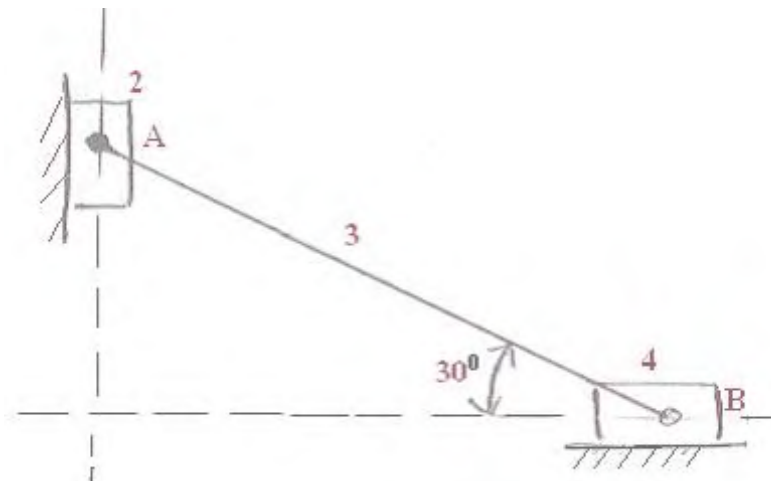

Figure 4
4. Locate the instant centres of the mechanism shown in figure4 Determine the velocity of B and angular velocity of link 3, when the linear velocity of A is 2 cm/s. AB = 25 cm. [16]